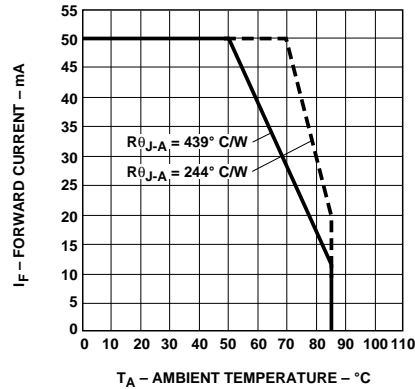

Figure 4. Maximum Forward Current vs. Ambient Temperature. Derating Based on T_J Max = 95°C.
- Derate linearly as shown in Figure 4.